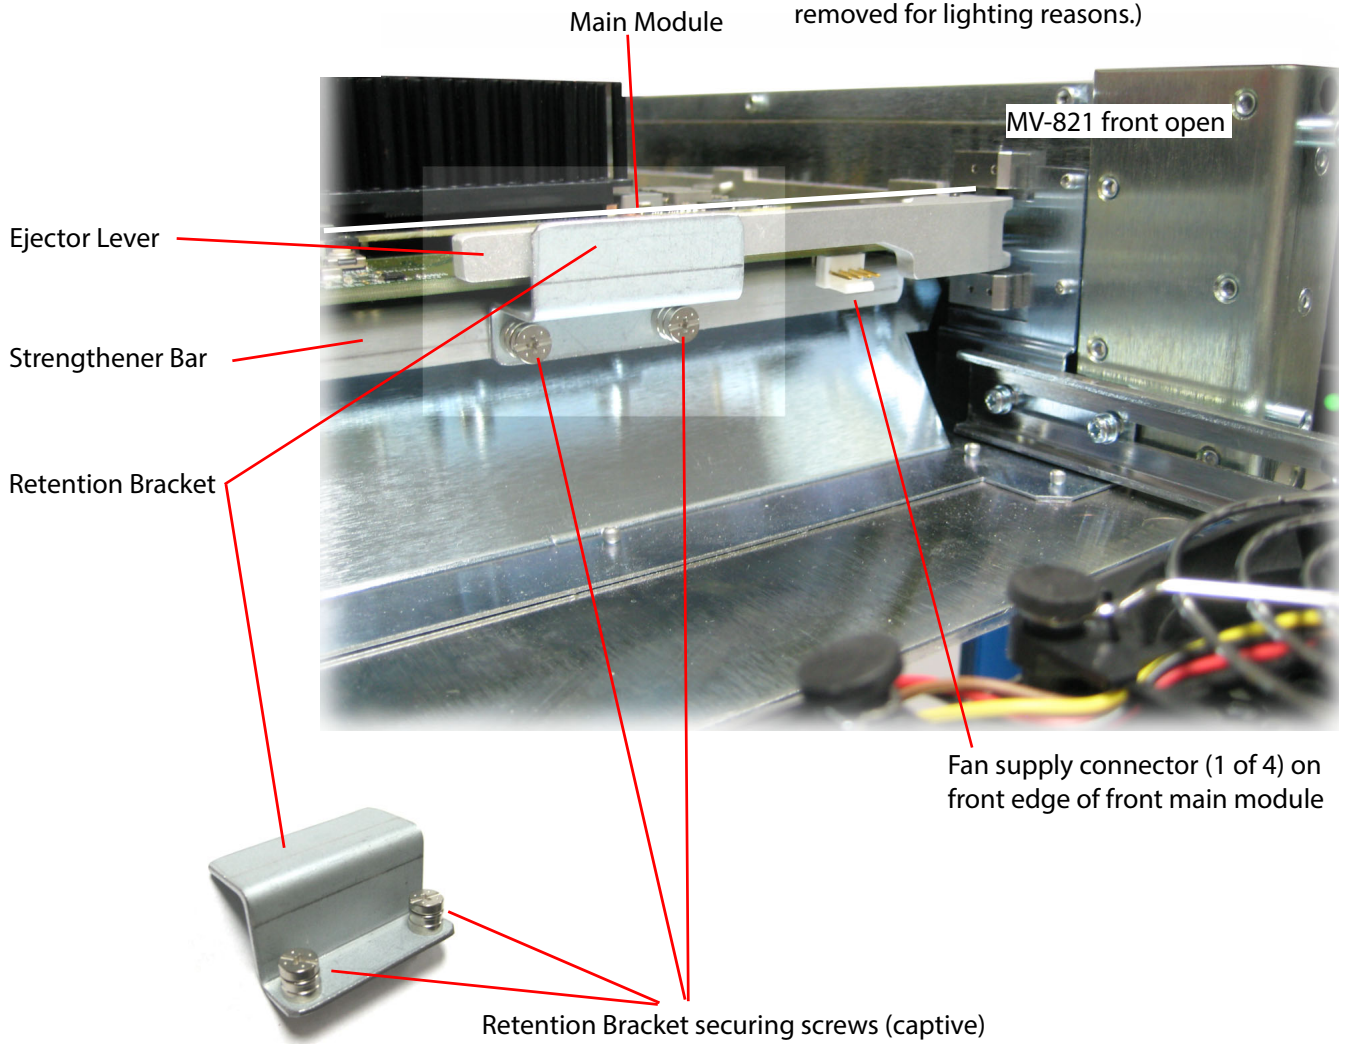
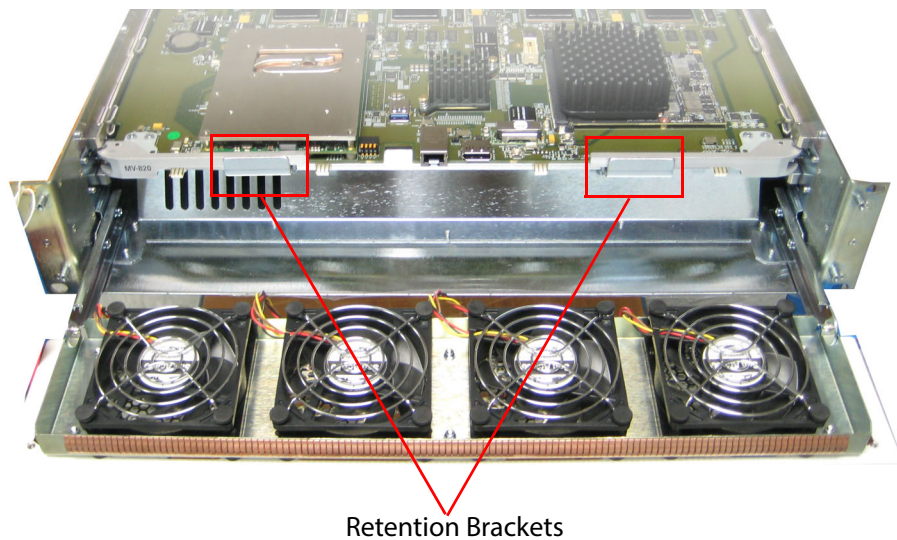

Fig. 6-7: Main Module Retention Bracket and Strengthened Bar
Fig. 6-9: Retention Bracket Locations
The Main Module is retained in the chassis with two Retention Brackets, each attached to the module's lower Strengthened Bar with two captive screws. See Figure 6-7.
- 4 Unscrew the two captive screws securing one of the Retention Brackets. Remove the Retention Bracket and keep it aside. See Figure 6-7 and Figure 6-9.
See Figure 6-7 and Figure 6-9.